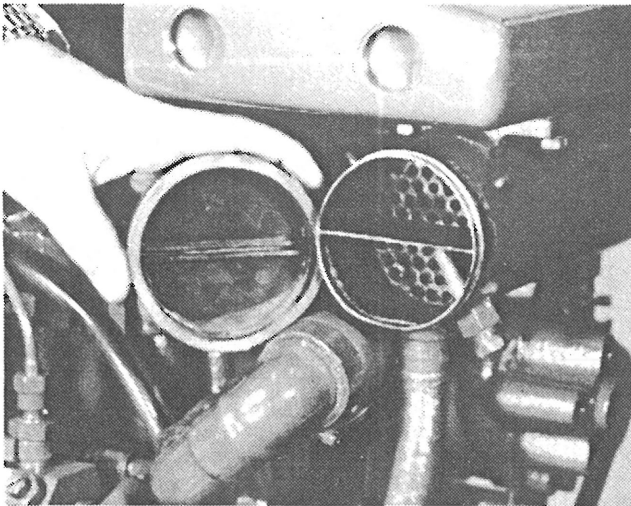

Figure 69 - End of heat exchanger, 843 and 854
- f. Reassemble. Note: Be sure divider in 854 heat exchanger seats between the two lips in the rubber end (figure 69).